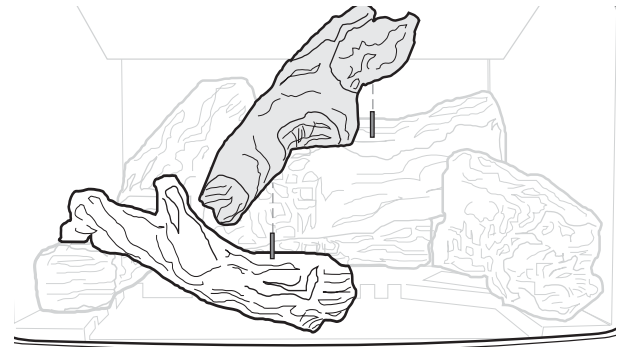

Figure 36. Install Crossover Log
2. PILOT FLAME: You can monitor the pilot flame through the view port located at the rear of the Right Log. See fig. 36. The pilot flame should be steady - not lifting or floating. The flame should be blue in color around the pilot hood, with traces of yellow toward the outer edges.